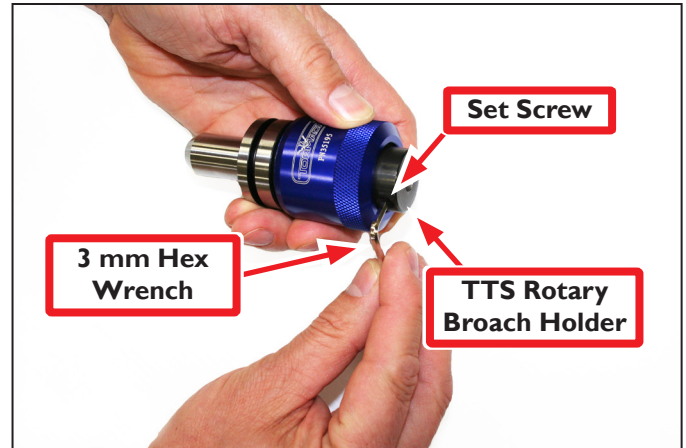

Figure 1
1. Using the 3 mm Hex Wrench, loosen Set Screw on the TTS Rotary Broach Holder (see **Figure 1**).
3. Tighten Set Screw to secure Rotary Broach in place (see **Figure 1**).